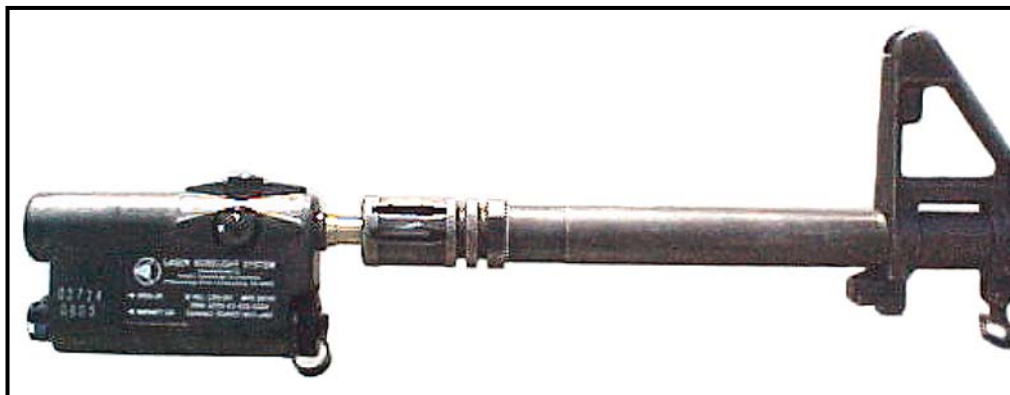

Figure 8-4. Borelight in the HALF TURN position.
(6) Rotate the borelight until the battery compartment is down and the adjusters are on top to allow for easy access to the adjusters and help with communication and stabilization of the weapon (Figure 8-4). This position of the borelight, and where the visible laser is pointing, is identified as the half turn position.